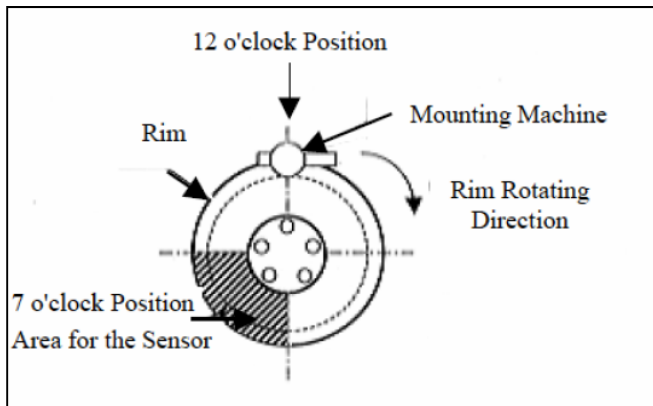

Figure 7a
- Position the wheel on the mounting machine with the sensor at ~ 7 o'clock position. See Figure 7a (Shaded Area). Mount/dismount head is considered as 12 o'clock Position.